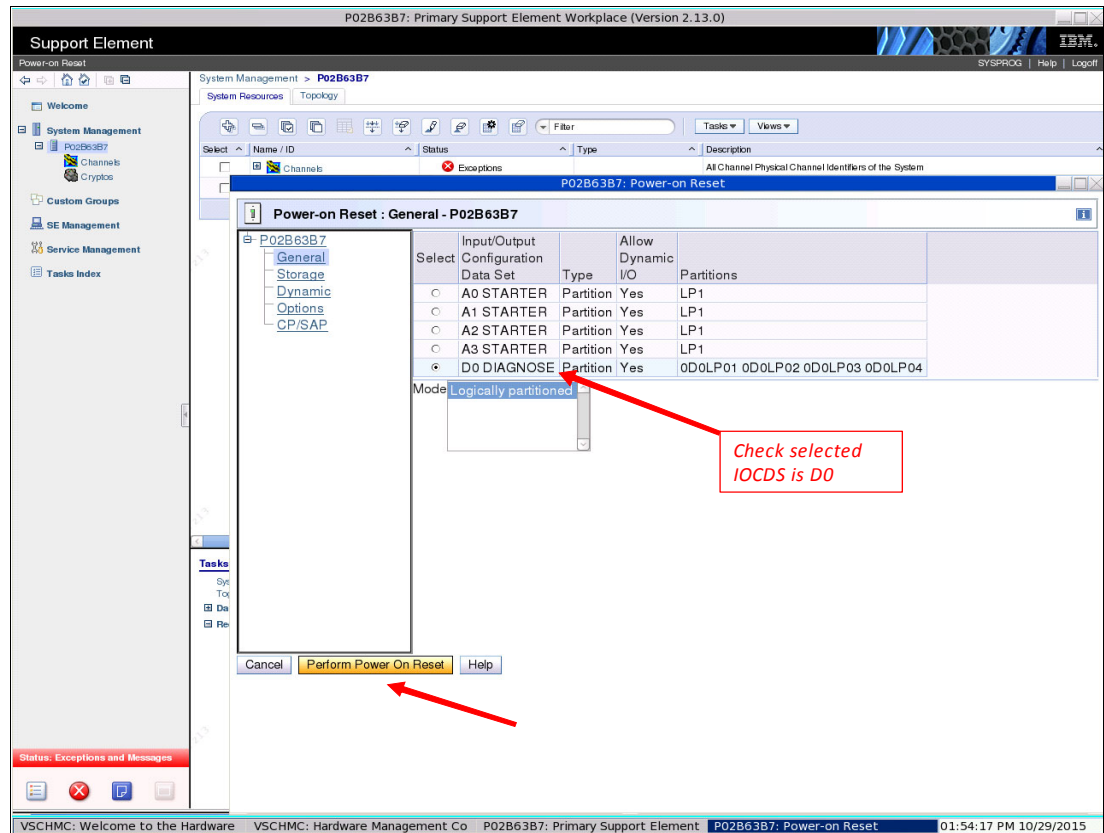

Figure 4-17 POR window
- The window that is shown in Figure 4-17 opens. We select **IOCDS D0 Diagnose** and then, click **Perform Power on Reset**.